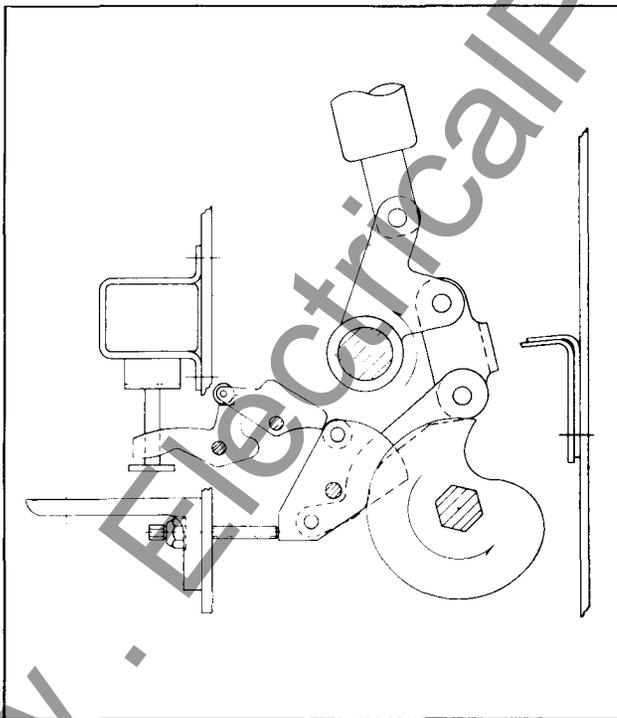

Fig. 8c Breaker Closed and Spring Charged
8. Although Figs. 8c and 8d have not been utilized in describing the trip latch adjustment procedure, they have been included to show the position of the mechanism parts for all breaker “closed” conditions. The revised Figure 8 may be used in conjunction with the description of the Stored Energy Mechanism on Pages 11 and 12 of I.B. 32-253-2.